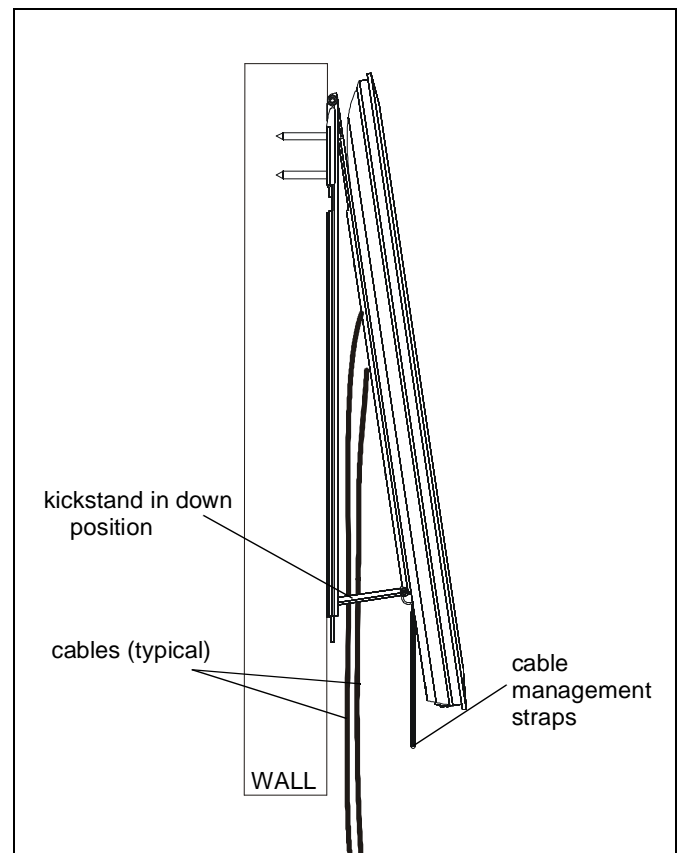

Figure 6
9. Slowly pull bottom of display away from wall until kickstand fully reaches its down position. (See Figure 6)
3. To disengage kickstand, slightly pull display away from wall and pull down on cable management straps to release kickstand. Slowly allow display to return to the wall. (See Figure 6)